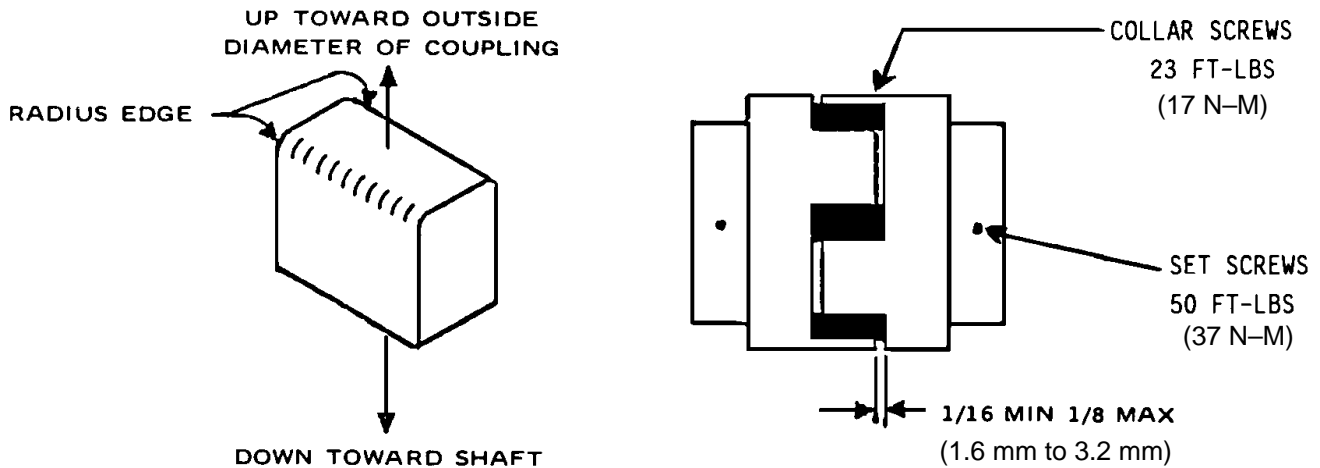

FIGURE 7-1 – INSTALLATION OF COUPLING CUSHIONS
3. Working through the coupling guard opening, center the coupling over the gap between the shafts, maintaining the gap as shown in FIGURE 7-1 between the ends of the jaws on one coupling body and the flange on the opposite coupling body. Tighten set screws in each coupling body.
4. Insert individual cushions as shown in FIGURE 7-1 and slide the collar over the cushions and secure with cap screws. Reinstall the cover plate.
#### **Individual Cushion Design (FIGURE 7-1)**